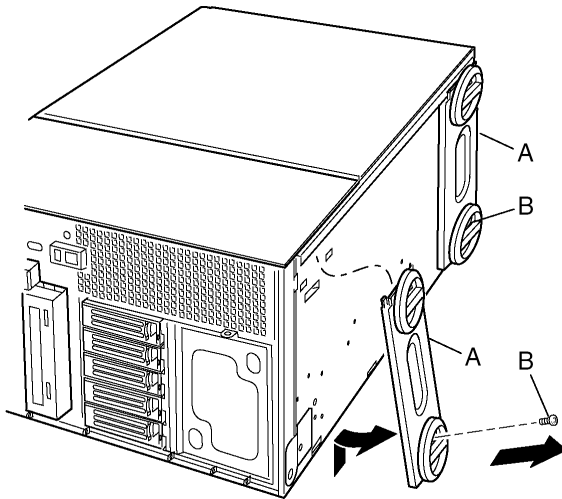

Figure 61 - Removing the feet
- 1 Place the chassis on a workbench so it is lying on its bottom and the feet (Figure 61, A) are on the right.
- 2 Remove the screw (Figure 61, B) that holds the front foot to the chassis, slide the foot upward, then remove the foot.
- 3 Remove the screw (Figure 61, B) that holds the rear foot to the chassis, slide the foot upward, then remove the foot.